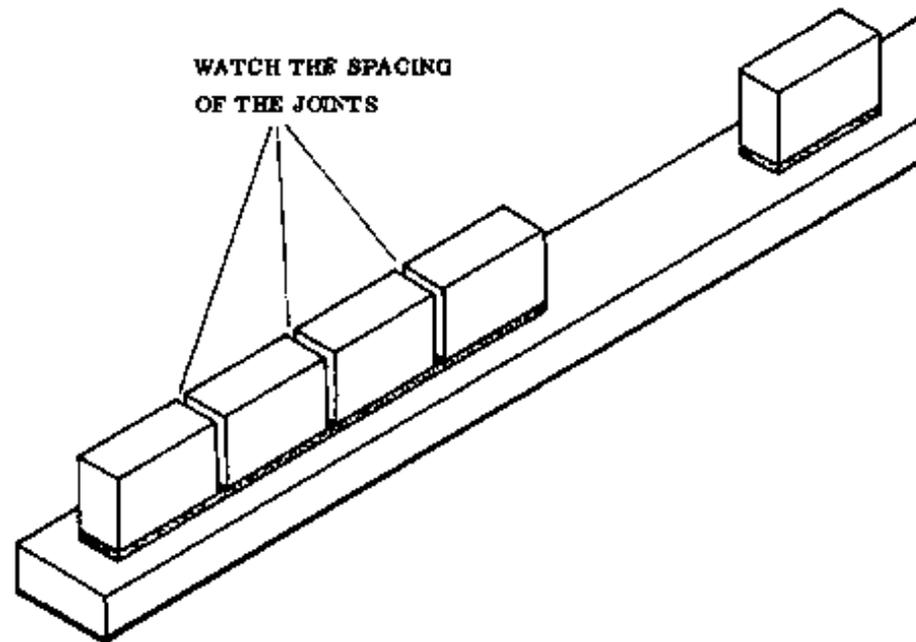

**Fig. 4 LAY THE SECOND BLOCK MAINTAIN THE CORRECT DISTANCE OF 4 BUILDING UNITS PLUS 1 JOINT.**
**Lay the second block at a distance of four building units and one joint away from the first block (Fig. 4). Hold the straight edge against the stretcher faces of the two blocks to make sure that they are in line.**